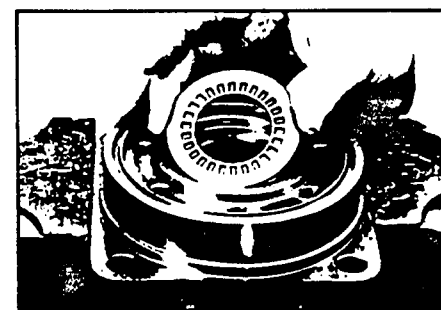

Figure 18
13. Remove thrust bearing (11) from top of coupling shaft (12) if Torqmotor is a Series MB or ME. Inspect for wear, brinelling, corrosion and a full complement of retained rollers. SEE FIGURE 18.